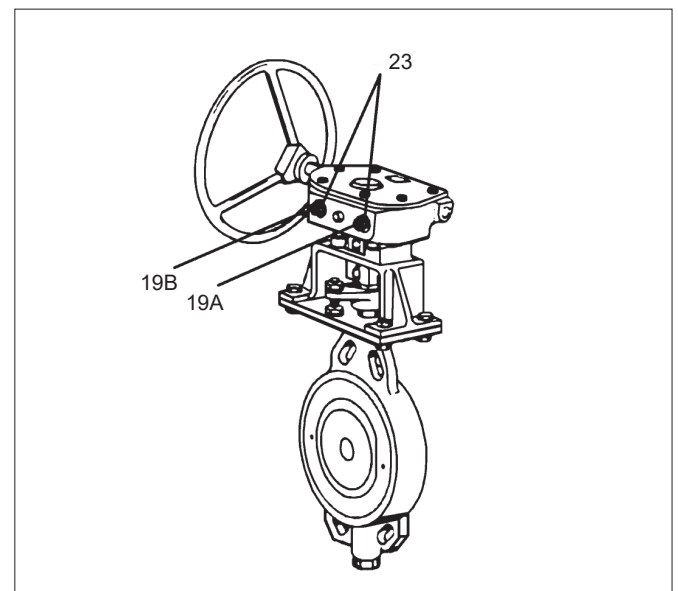

Figure 16.
7.4 Setting Stops on ST and ST-MS Pneumatic Actuators (Figure 16)